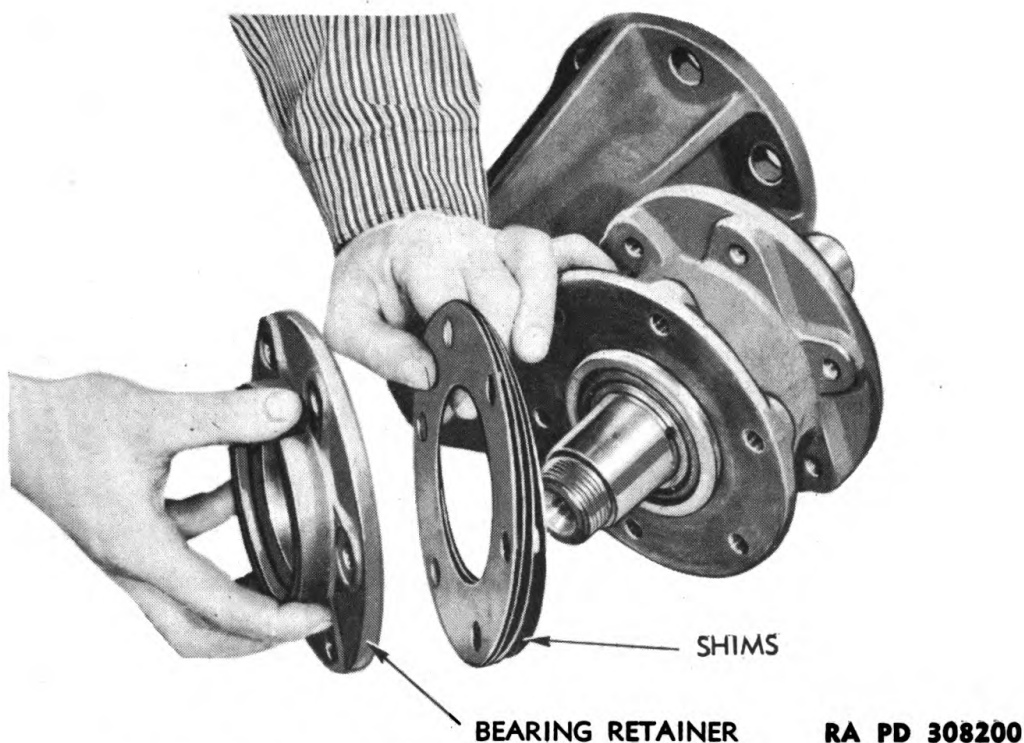

Figure 98 – Installing Shims and Bearing Retainers
(3) **INSTALL BEARING RETAINERS.** Press oil seals into retainers with lips of seals facing inner side of retainer, then install bearing retainers on sides of bracket with six cap screws with lock washers in each. Install shims totaling approximately 0.060 inch in thickness under each retainer (fig. 98). Tighten cap screws securely, then test bearing adjustment. Adjust bearings so there is no end play in shaft, yet shaft will roll quite freely when turned by hand. This is done by removing the retainers and adding shims behind retainers if bearings are too tight or removing shims if bearings are too loose. Always add or remove an equal amount of shims from both sides to insure centering of roller in support. Always test bearing adjustment with retainer cap screws drawn tight.